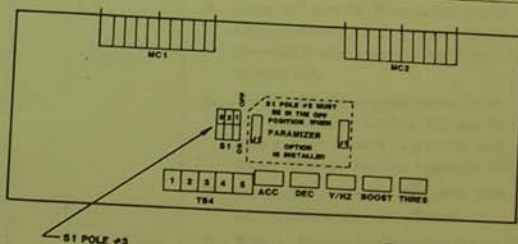

FIGURE 15
10.7 No voltage measured on TB3 with Reversing Control Module	<p>10.7.1 Refer to Figure 15. Locate S1. Be sure that S1, pole #3 is in the 'ON' position when the Paramizer option is not used.</p> <p>10.7.2 If S1, pole #3 is in the on position, refer to paragraph 10.5 and follow the procedure in that step.</p>
10.8.1 continued "Shear Pin" LED is illuminated. NO MOTOR CONNECTED TO TB3.	10.8.1.3 continued G. Refer to Figure 17. Your FHP ParaJust should now resemble Figure 15. Disconnect AP2 and AP3 from the transistor module.  H. Remove the four (4) nuts holding the transistor module down to the chassis with a 1/4" nutdriver or socket wrench.  I. Check the serial number on your FHP ParaJust controller. If your serial number is 8236 or subsequent, proceed to step J. If your serial number is prior to 8236, remove the gray fish paper which is glued down to the chassis under the transistor module.  NOTE: DO NOT REMOVE THE WHITE HEAT SINK COMPOUND ON THE CHASSIS UNDER THE TRANSISTOR MODULE! THIS COMPOUND IS NECESSARY FOR PROPER HEAT TRANSFER.  J. Remove the old transistor module and place the new module in its place.  K. Replace the four 6-32 nuts which hold down the module. Tighten all four nuts evenly. Be sure that the two metal heat sink bars on each side of the module are in full contact with the chassis plate.  L. Replace AP2 and AP3 onto the new transistor module. Replace the motherboard onto the chassis along with the five (5) mounting screws removed in Step F.